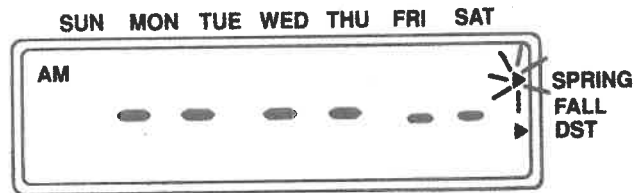

Figure 52
1. Depress [DST], see Figure 52 for display.